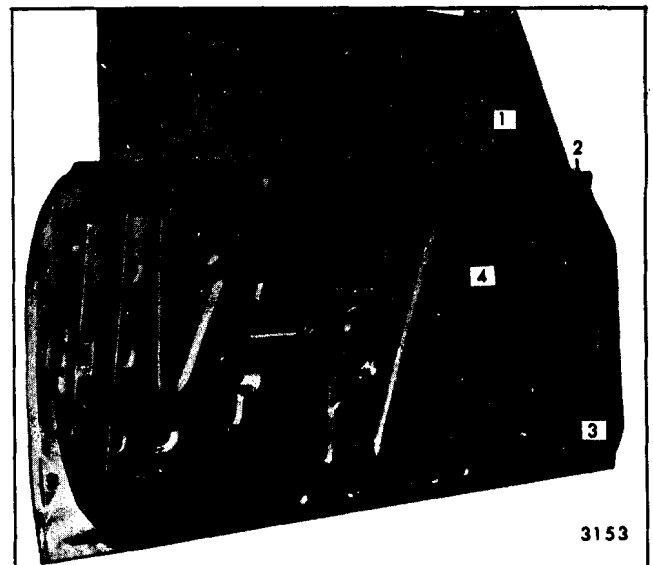

Fig. 6-64-Front Door Ventilator Assembly Removal and Adjustment "A-39" Styles
2. Remove ventilator frame to door panel bolts ("1", Figure 6-64) and trim pad hanger plate retained by rear bolt.
3. Remove ventilator lower frame adjusting stud ("2", Figure 6-64).
4. Remove division channel lower adjusting stud ("3", Figure 6-64).
To reposition the ventilator assembly up or down or fore or aft, it is necessary to have the vent completely loose at all attaching locations, including the ventilator regulator attaching bolts ("4", Figure 6-64).
To adjust the top of the ventilator in or out, loosen only the adjusting stud nuts ("2" and "3", Figure 6-64) and adjust the studs in or out as required.
It is not necessary to loosen the vent to outer panel bolts ("3", Figure 6-64).